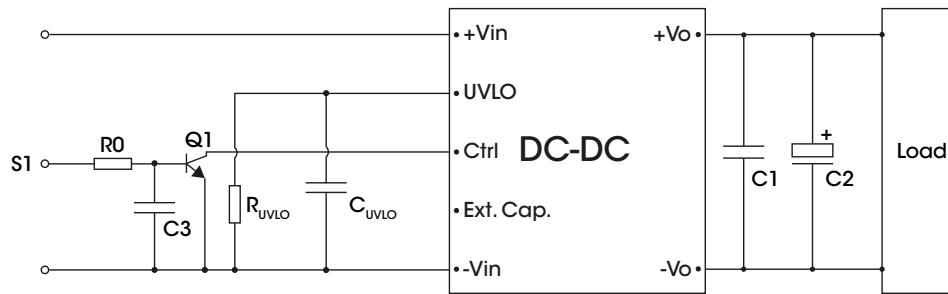

Figure 7.
4. Recommended circuit for Ctrl negative logic refer to Fig. 7.